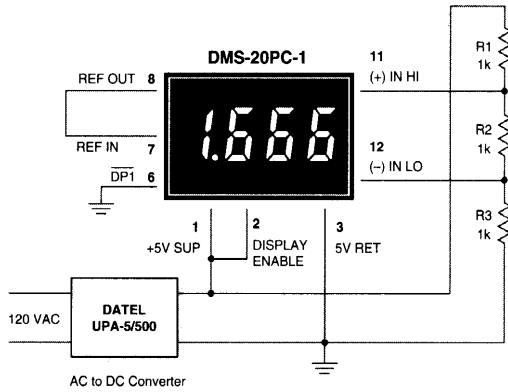

Figure 3. Differential Input Configuration
**2. Differential Input Configurations:** Differential measurements can be made with all DMS-20PC meters. Figure 3, though not a practical real-world application, uses a voltage divider to demonstrate the concept of a differential input signal. Be careful not to exceed the ±2V common mode voltage limitation.